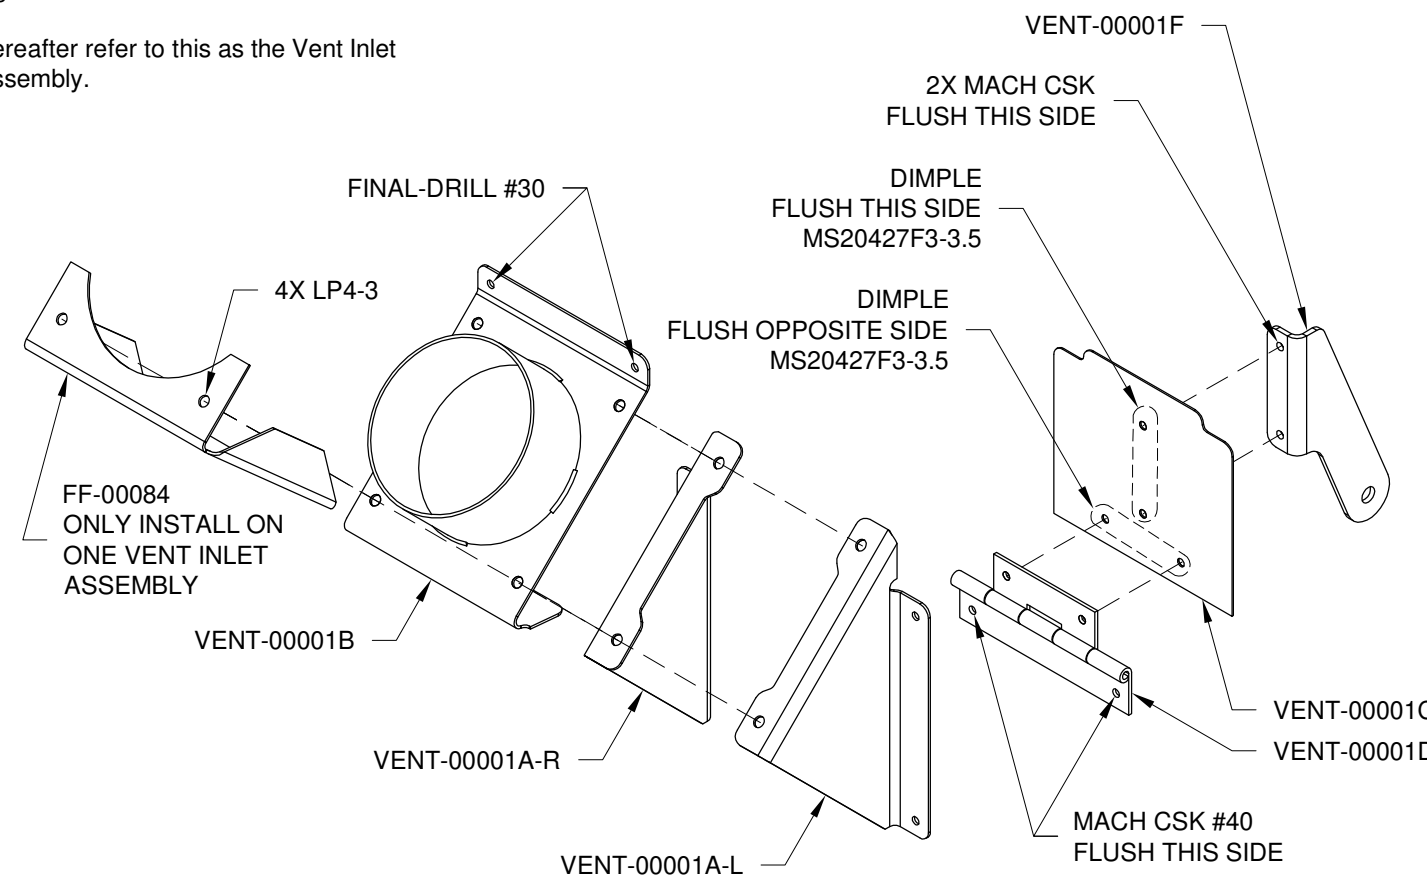

FIGURE 4: VENT DOOR ASSEMBLY AND VENT INLET ASSEMBLY
Step 6: Final-Drill the VENT-00001B as shown in Figure 4.
Step 8: Machine countersink the #40 holes in the VENT-00001D and VENT-00001F as shown in Figure 4.
Step 9: Dimple the VENT-00001C as shown in Figure 4.
Step 10: Rivet the VENT-00001D and VENT-00001F to the VENT-00001C as shown in Figure 4.
Step 11: Rivet the VENT-00001B to the VENT-00001A-L & -R as shown in Figure 4.